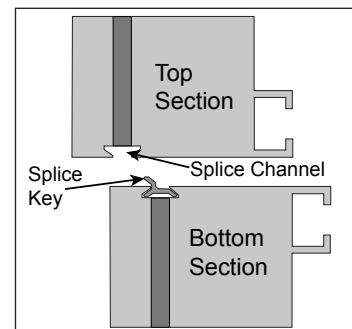

Figure 4: Installed Splice Key
1. Ensure the splice key is inserted in the channel of the bottom section, as shown in **Figure 4**.